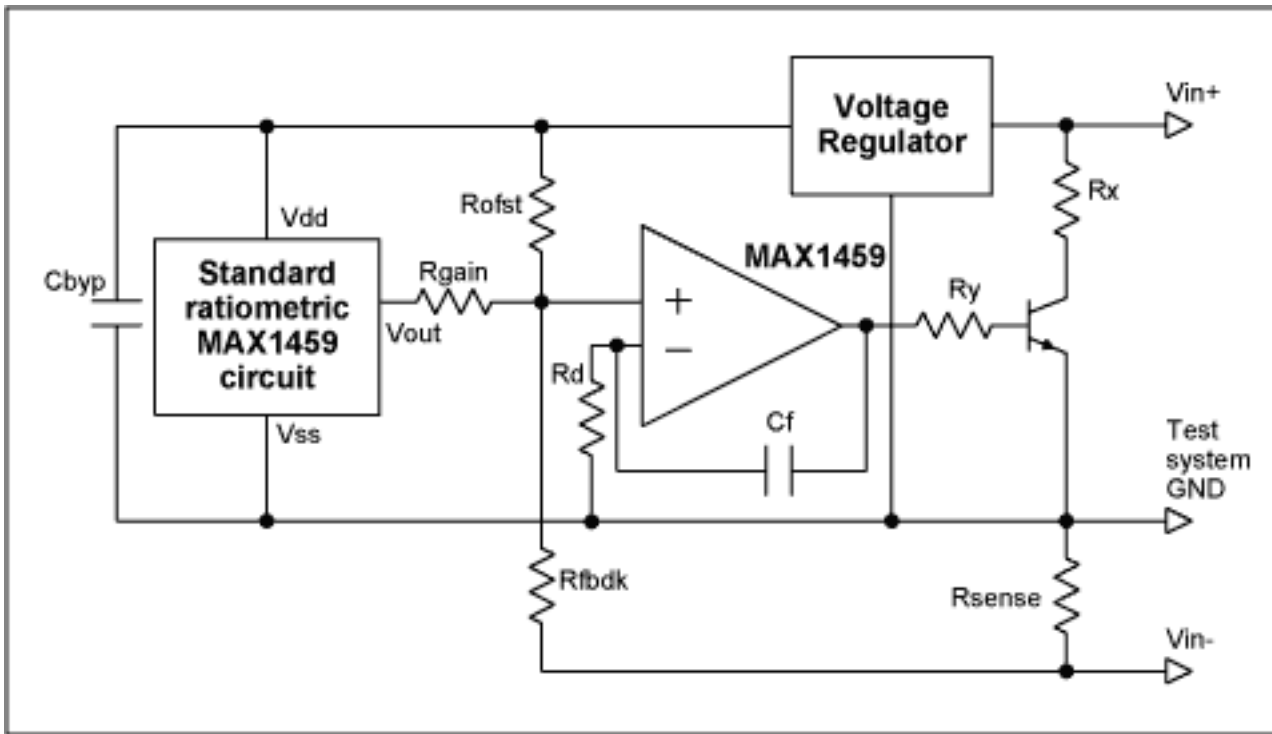
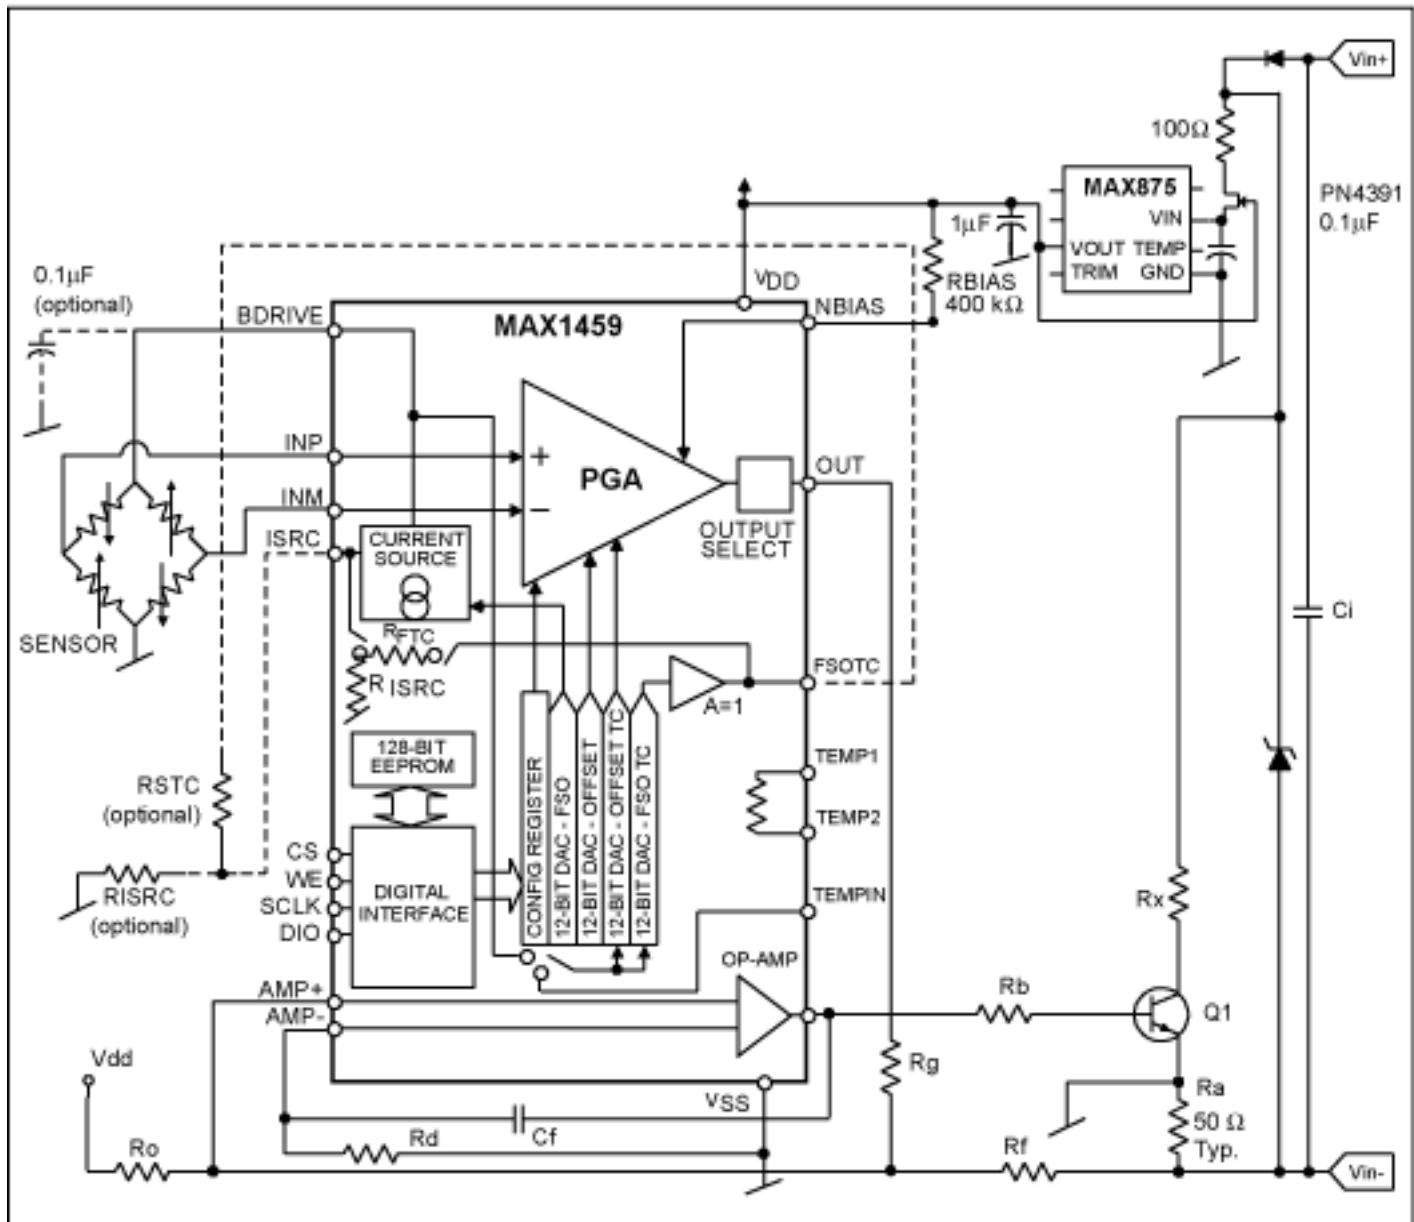

Figure 1. This circuit shows the basic functional blocks of a 4-20mA transmitter.
Figure 2. Circuitry internal to the MAX1459 IC helps to understand operation of the Figure 1 circuit.
**Figure 1** shows the circuitry required in addition to that implementing a standard ratiometric version of the MAX1459 circuit. The voltage regulator can be any low-cost device whose quiescent current is sufficiently low for the 4mA budget. Resistors Rx and Ry are optional. Ry limits the transistor's base current, primarily during power-up and large transients.
**Figure 2** is a more detailed version of Figure 1. Choosing  $R_{sense} = 50\Omega$  makes that resistor drop 1V at 20mA. Then, choosing  $R_{fdbk} = 100K\Omega$  establishes an  $R_{sense}/R_{fdbk}$  ratio that limits the equation error to only 0.05% (the equations do not account for the effect of  $R_{fdbk}$  in the current loop). We can neglect this  $R_{fdbk}$  effect, because the FSO and offsets are adjusted with DACs internal to the MAX1459. We next assume a 10V minimum operating voltage and choose  $R_x = 390\Omega$ . At maximum current, this leaves 2.2V of headroom for  $R_{sense}$  and the transistor  $V_{ce}$  drop. Select  $5K\Omega$  for the optional  $R_y$ . Finally, determine  $R_{ofst}$  and  $R_{gain}$  using Equations 1-2 and 1-4. Table 1 summarizes the resulting component values.